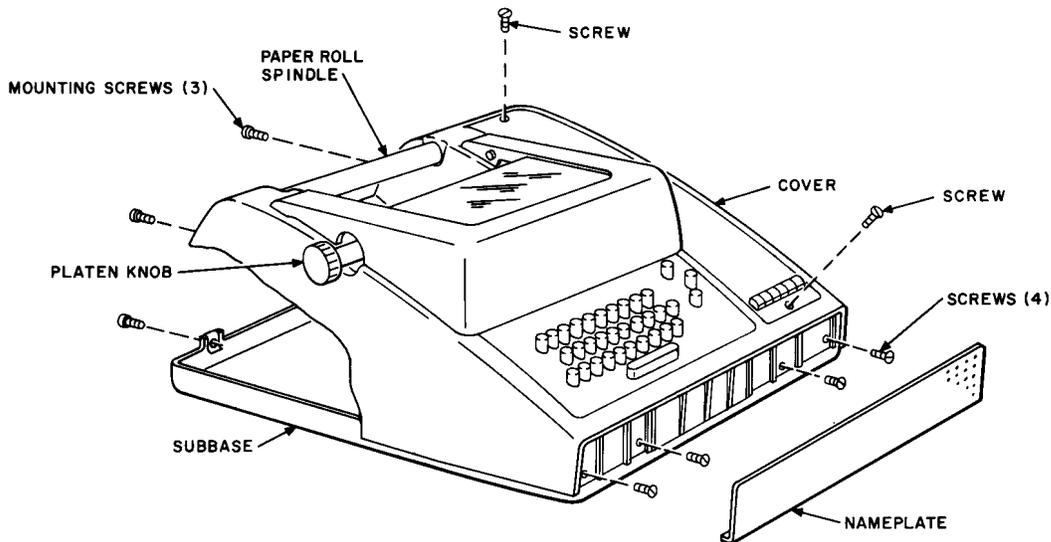

Fig. 1—33-Type TTY Data Station—Cover Removal
- (1) Remove paper and paper roll spindle (Fig. 1).